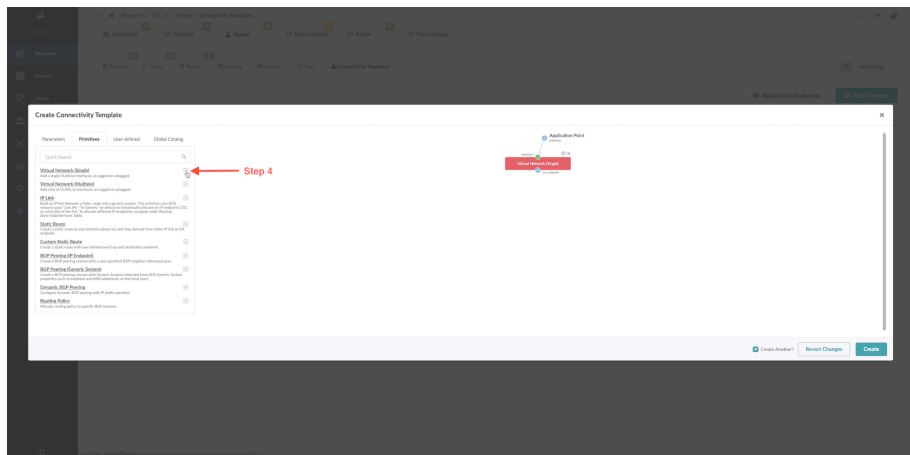

Figure 5.17 Creating a Connectivity Template via Apstra
Step 4: Under the Primitives tab select Virtual Network (Single). See Figure 5.17.